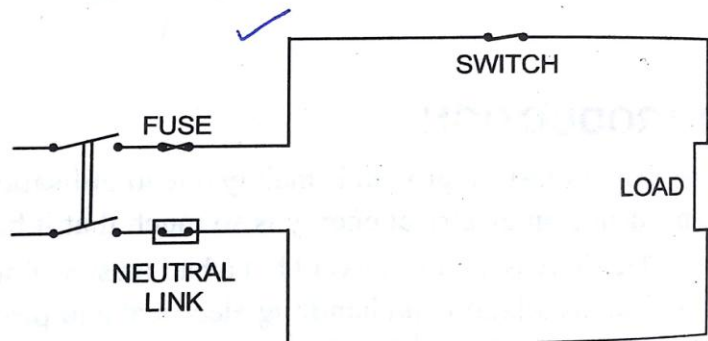

Fig .5.1: Circuit with fuse
- A fuse is connected in series (see Fig.5.1) with the circuit to be protected and carries the load current without overheating itself under normal conditions.